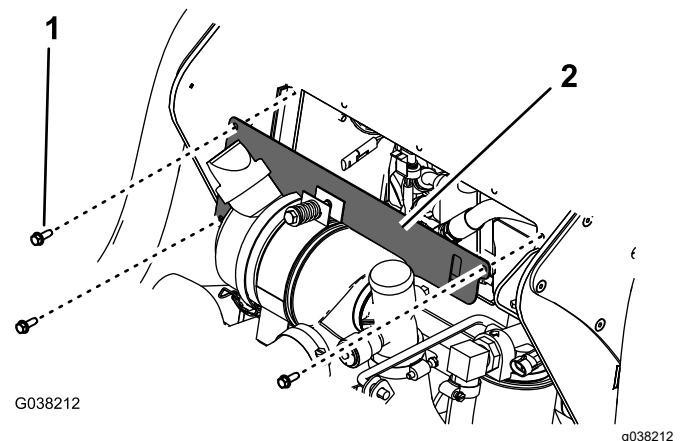

Figure 35
3. Align the holes in the cover plate (Figure 35) with the holes in the front of the control panel frame.